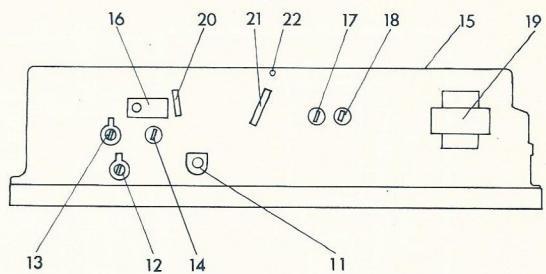

Fig. 8
- 1) By adjusting  $20K\Omega$  VR1 make MPX lamp go on. (Fig. 8)